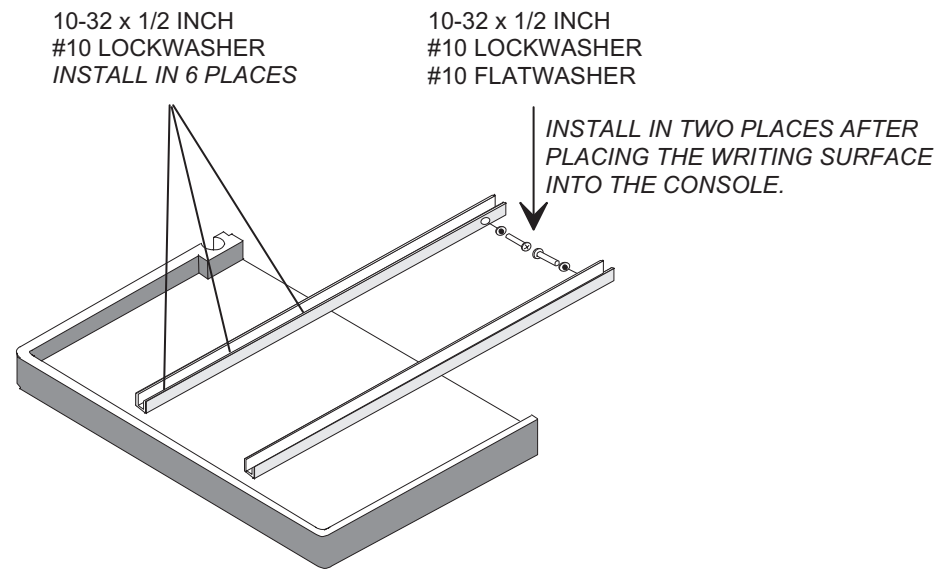

Figure 15-1. Console Table
- Step 4.*** Attach the mounting rails to the table as shown in Figure 15-1.